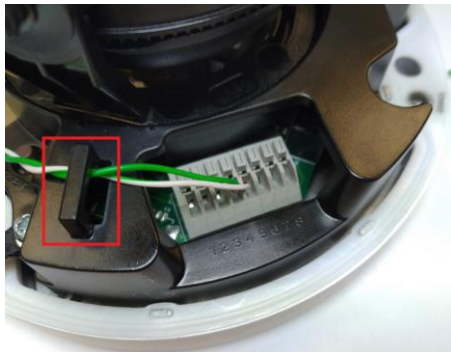

Figure 1-90
6. Thread the Ethernet cable through the PG21 conduit connector and the power box, as shown in No 6, Figure 1-90. Then connect the cable to the camera.
7. Rotate the plastic ring to secure the conduit connector to the power box. Screw in the cap shown in No 7, Figure 1-90.